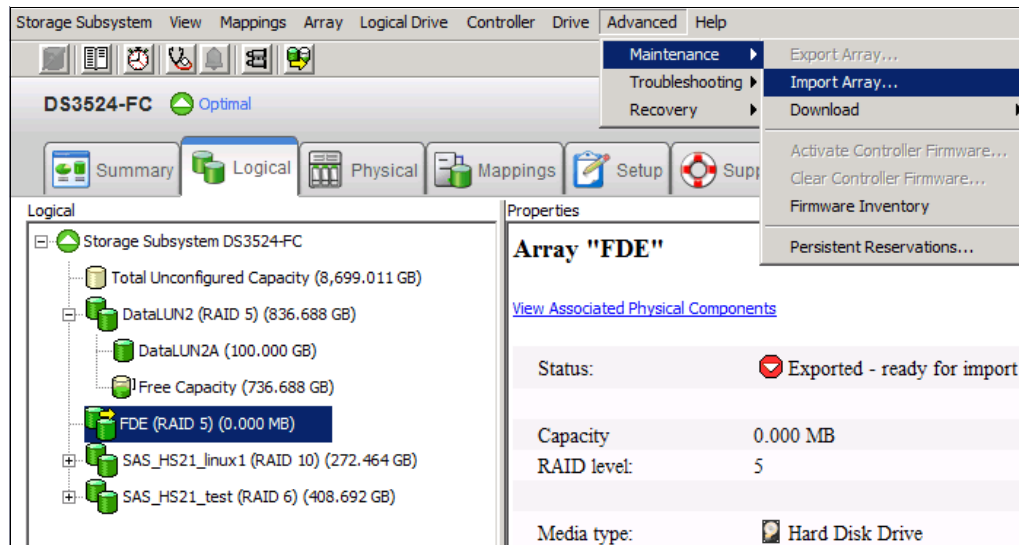

Figure 15-36 Array ready to be imported
1. The array will be displayed in the Logical tab of the Storage Manager window, and is ready to import, as shown in Figure 15-36.